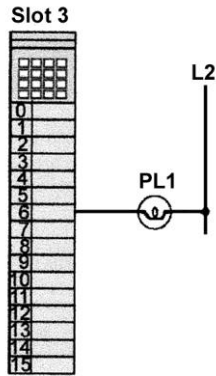

Figure 5-10 Module for question 27.
27. The most likely module address for PL1 of Figure 5-10 is 27._____